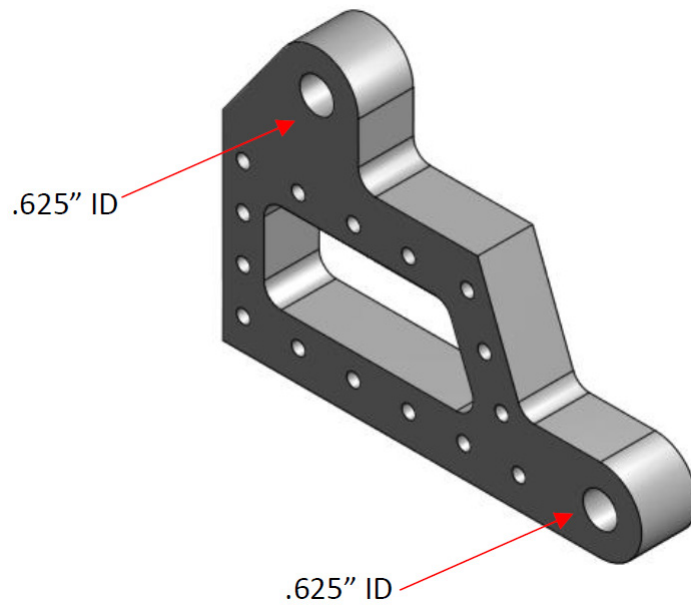
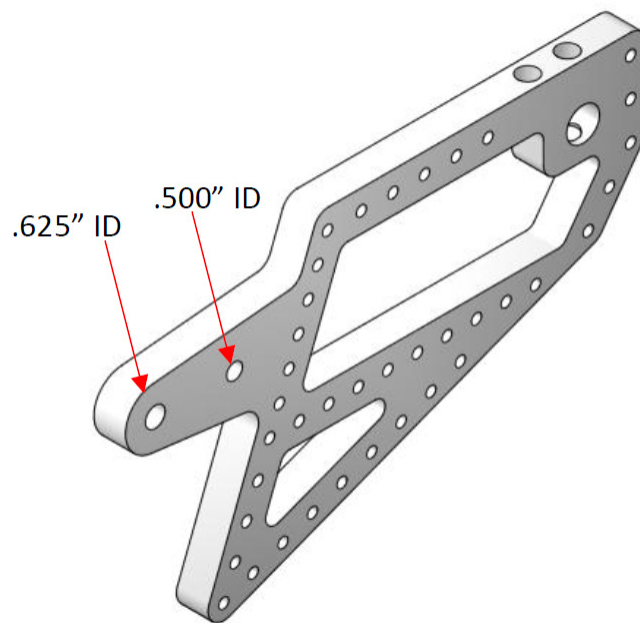

FIGURE 5.9-8: 10000 Front Strut Fitting 13A01082-001
FIGURE 5.9-9: 10000 Main Strut Fitting 13A01161-002
A. This repair scheme is to be used to repair the Ø.625" bolt holes on the main and front strut fittings when they have become larger than nominal. The fix should be considered optional for holes Ø.628"- Ø.645" and mandatory for holes over Ø.645." Reference Figure 5.9-8 and Figure 5.9-9 for details.
1. Make or purchase bushing (1008698). Measure the outside diameter (OD) of the bushing. If making the bushing, it should be made from 2024-T3 with an OD of 0.75" + .035, - .0005, an ID of 0.625" + .002, -0 and .990" ±.003 long with a .04"x45° chamfer on one end to help align with the hole when pushing it in.
B. This repair scheme is to be used to repair the Ø.500" bolt holes on the main strut fittings P/N 13A01161-002 when they have become larger than nominal. The fix should be considered optional for holes Ø.503"- Ø.520" and mandatory for holes over Ø.520." Reference Figure 5.9-9 for details.
1. Make or purchase bushing (1012018). Measure the outside diameter (OD) of the bushing. If making the bushing, it should be made from 2024-T3 with an OD of 0.6245" +.0005, -.0000 an ID of 0.500" + .002, -0 and .990" ±.003 long with a .04"x45° chamfer on one end to help align with the hole when pushing it in.